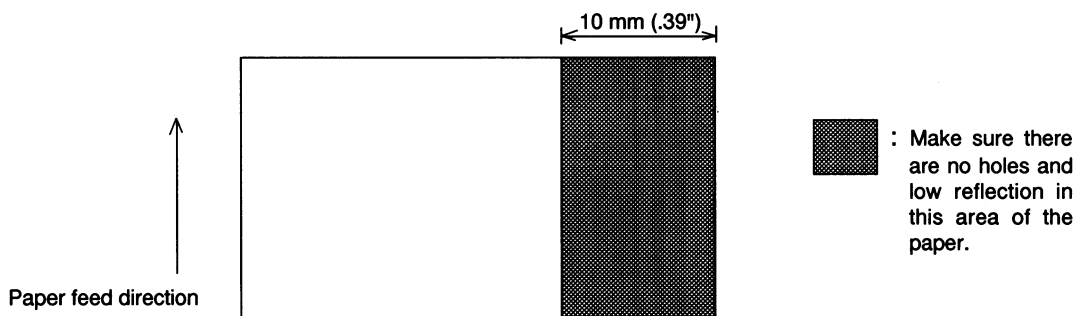

Figure 1.8.3 Paper Holes and Low Reflection Prohibited Area
- Since the slip ejection sensor uses a reflective photo sensor, do not use paper that has holes or dark portions with low reflection (less than 40% reflection) at the sensor position (refer to Figure 1.8.3).